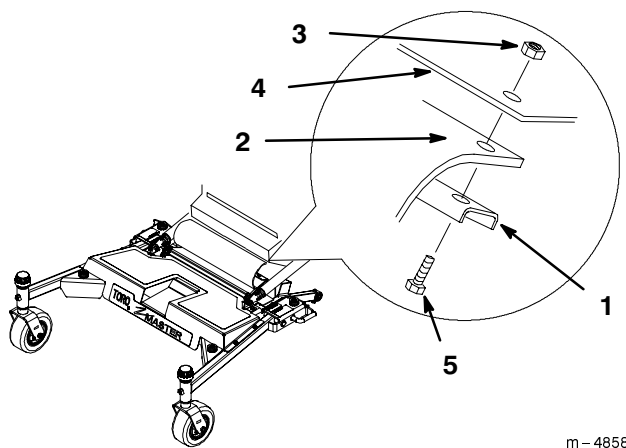

Figure 26
11. Remove the two nuts and bolts that hold the bar for rubber guard. The bar is under the motion control levers. Fold the rubber guard onto the footrest (Fig. 26).